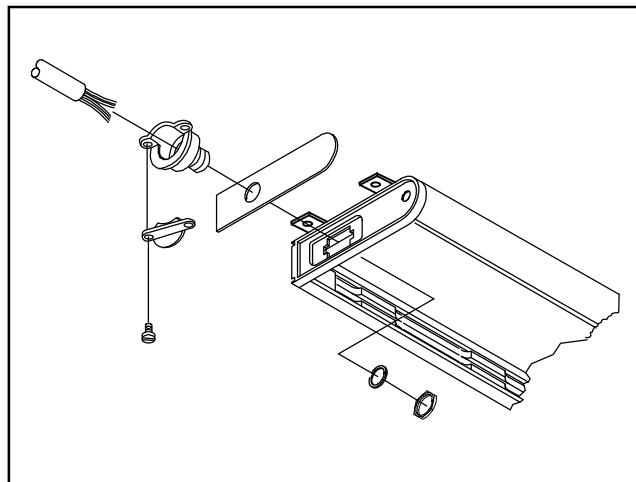

Figure 3
7. If the electrical feed is at a side of the fixture, the Molex connector will need to be removed from the plastic end cap. Squeeze the fasteners on each side of the connector and push the Molex connector into the housing. Place the metal hard wire plate in place into the end of the plastic end cap. See Figure 3.
8. Using the FMC/Romex connector supplied, secure the proper length power supply wiring to the housing as shown in Figure 3.